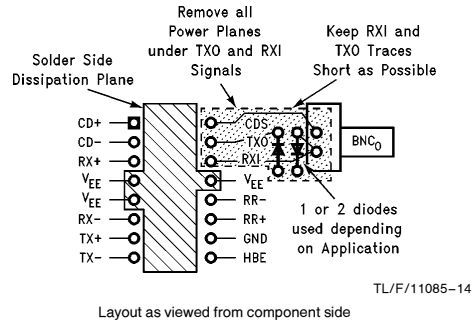
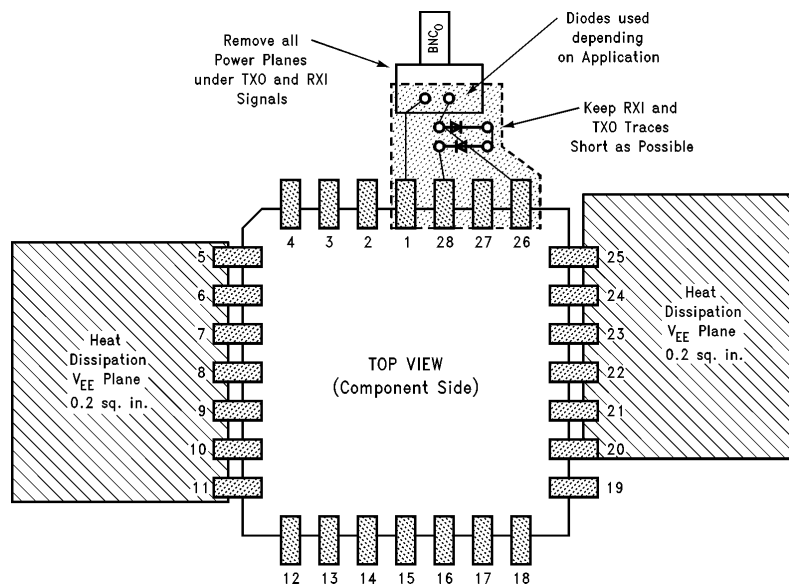

FIGURE 6. Typical Layout Considerations for DP8392CN (Not to Scale)
FIGURE 7. Recommended Layout and Dissipation Planes for DP8392CV (Not to Scale)
1. Ensure that the parasitic capacitance added to the RXI and TXO pins is minimized. To do this keep these signal traces short, and remove any power planes under these signals, and under any components that connect to these signals. *Figure 6* shows the component placement for the DIP package. The PLCC component placement would be similar, as shown in *Figure 7*.
The size of the trace plane depends on the package used and the duty cycle of transmissions. For the DIP package the plane should be connected to pins 4–5, 13, and the size should be approximately 0.2 square inches for applications where the duty cycle of the transmitter is very low (<10%). This would be typical of adapter or motherboard applications. In applications where the transmitter duty cycle may be large (repeaters and external transceivers) the total area should be increased to 0.4 in2. *Figure 6* illustrates a recommended component side layout for these planes.
For the PLCC packaged DP8392, it is recommended that a small printed circuit board  $V_{EE}$  plane be connected to pins 5–11, and a second one be connected to pins 20–25. To reduce the thermal resistance to the required value, the area of the plane on EACH set of pins should be  $\geq 0.20 \text{ in}^2$  for applications with low transmitter duty cycle, and  $\geq 0.4 \text{ in}^2$  for high transmit duty cycle applications. Figure 7 illustrates a recommended component side layout for these planes.